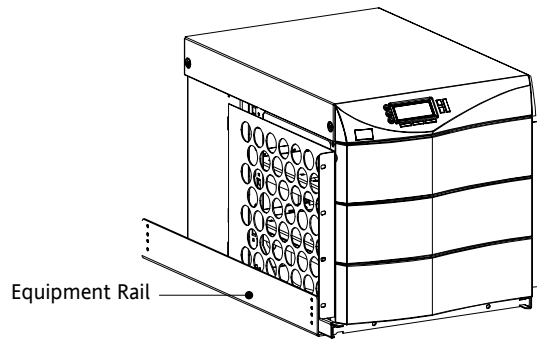

Figure 11. Rails Holding UPS
7. Install one equipment rail on each side of the rack using four 10-32 \times 1/2" flat-head screws per rail. Select the proper holes in the rail that position the UPS at the desired location in the rack (see Figure 11).